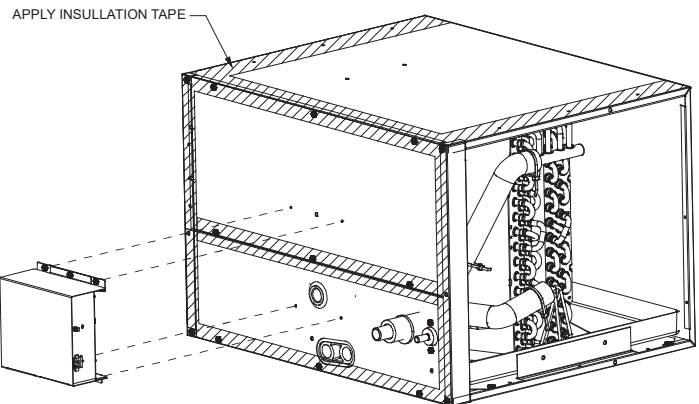

Figure 11
**IMPORTANT NOTE:** To prevent cabinet “sweating”, apply field provided insulation tape along all joining surfaces between the coil, gas furnace, duct work, and panels. See Figure 11.